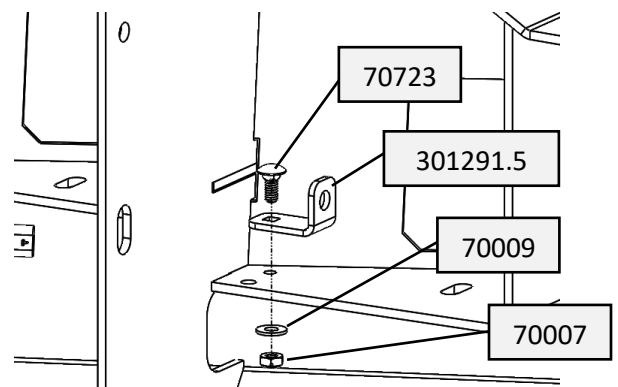

Figure 27: Air Temp and Bracket Installation from Back of Bumper
27. Install air temperature and bracket onto bumper in specified location (Figure 27).